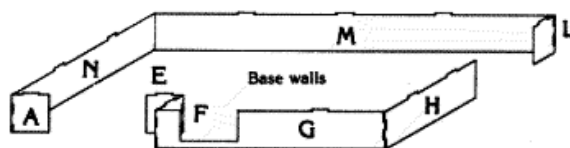

FIGURE 3
2. Locate base walls (Sheet HR-2). Interlock and glue parts together as in Figure 3. Glue only the interlocking parts together. There will be six remaining base walls, these are the bay base walls. They will be installed after they have been bricked.